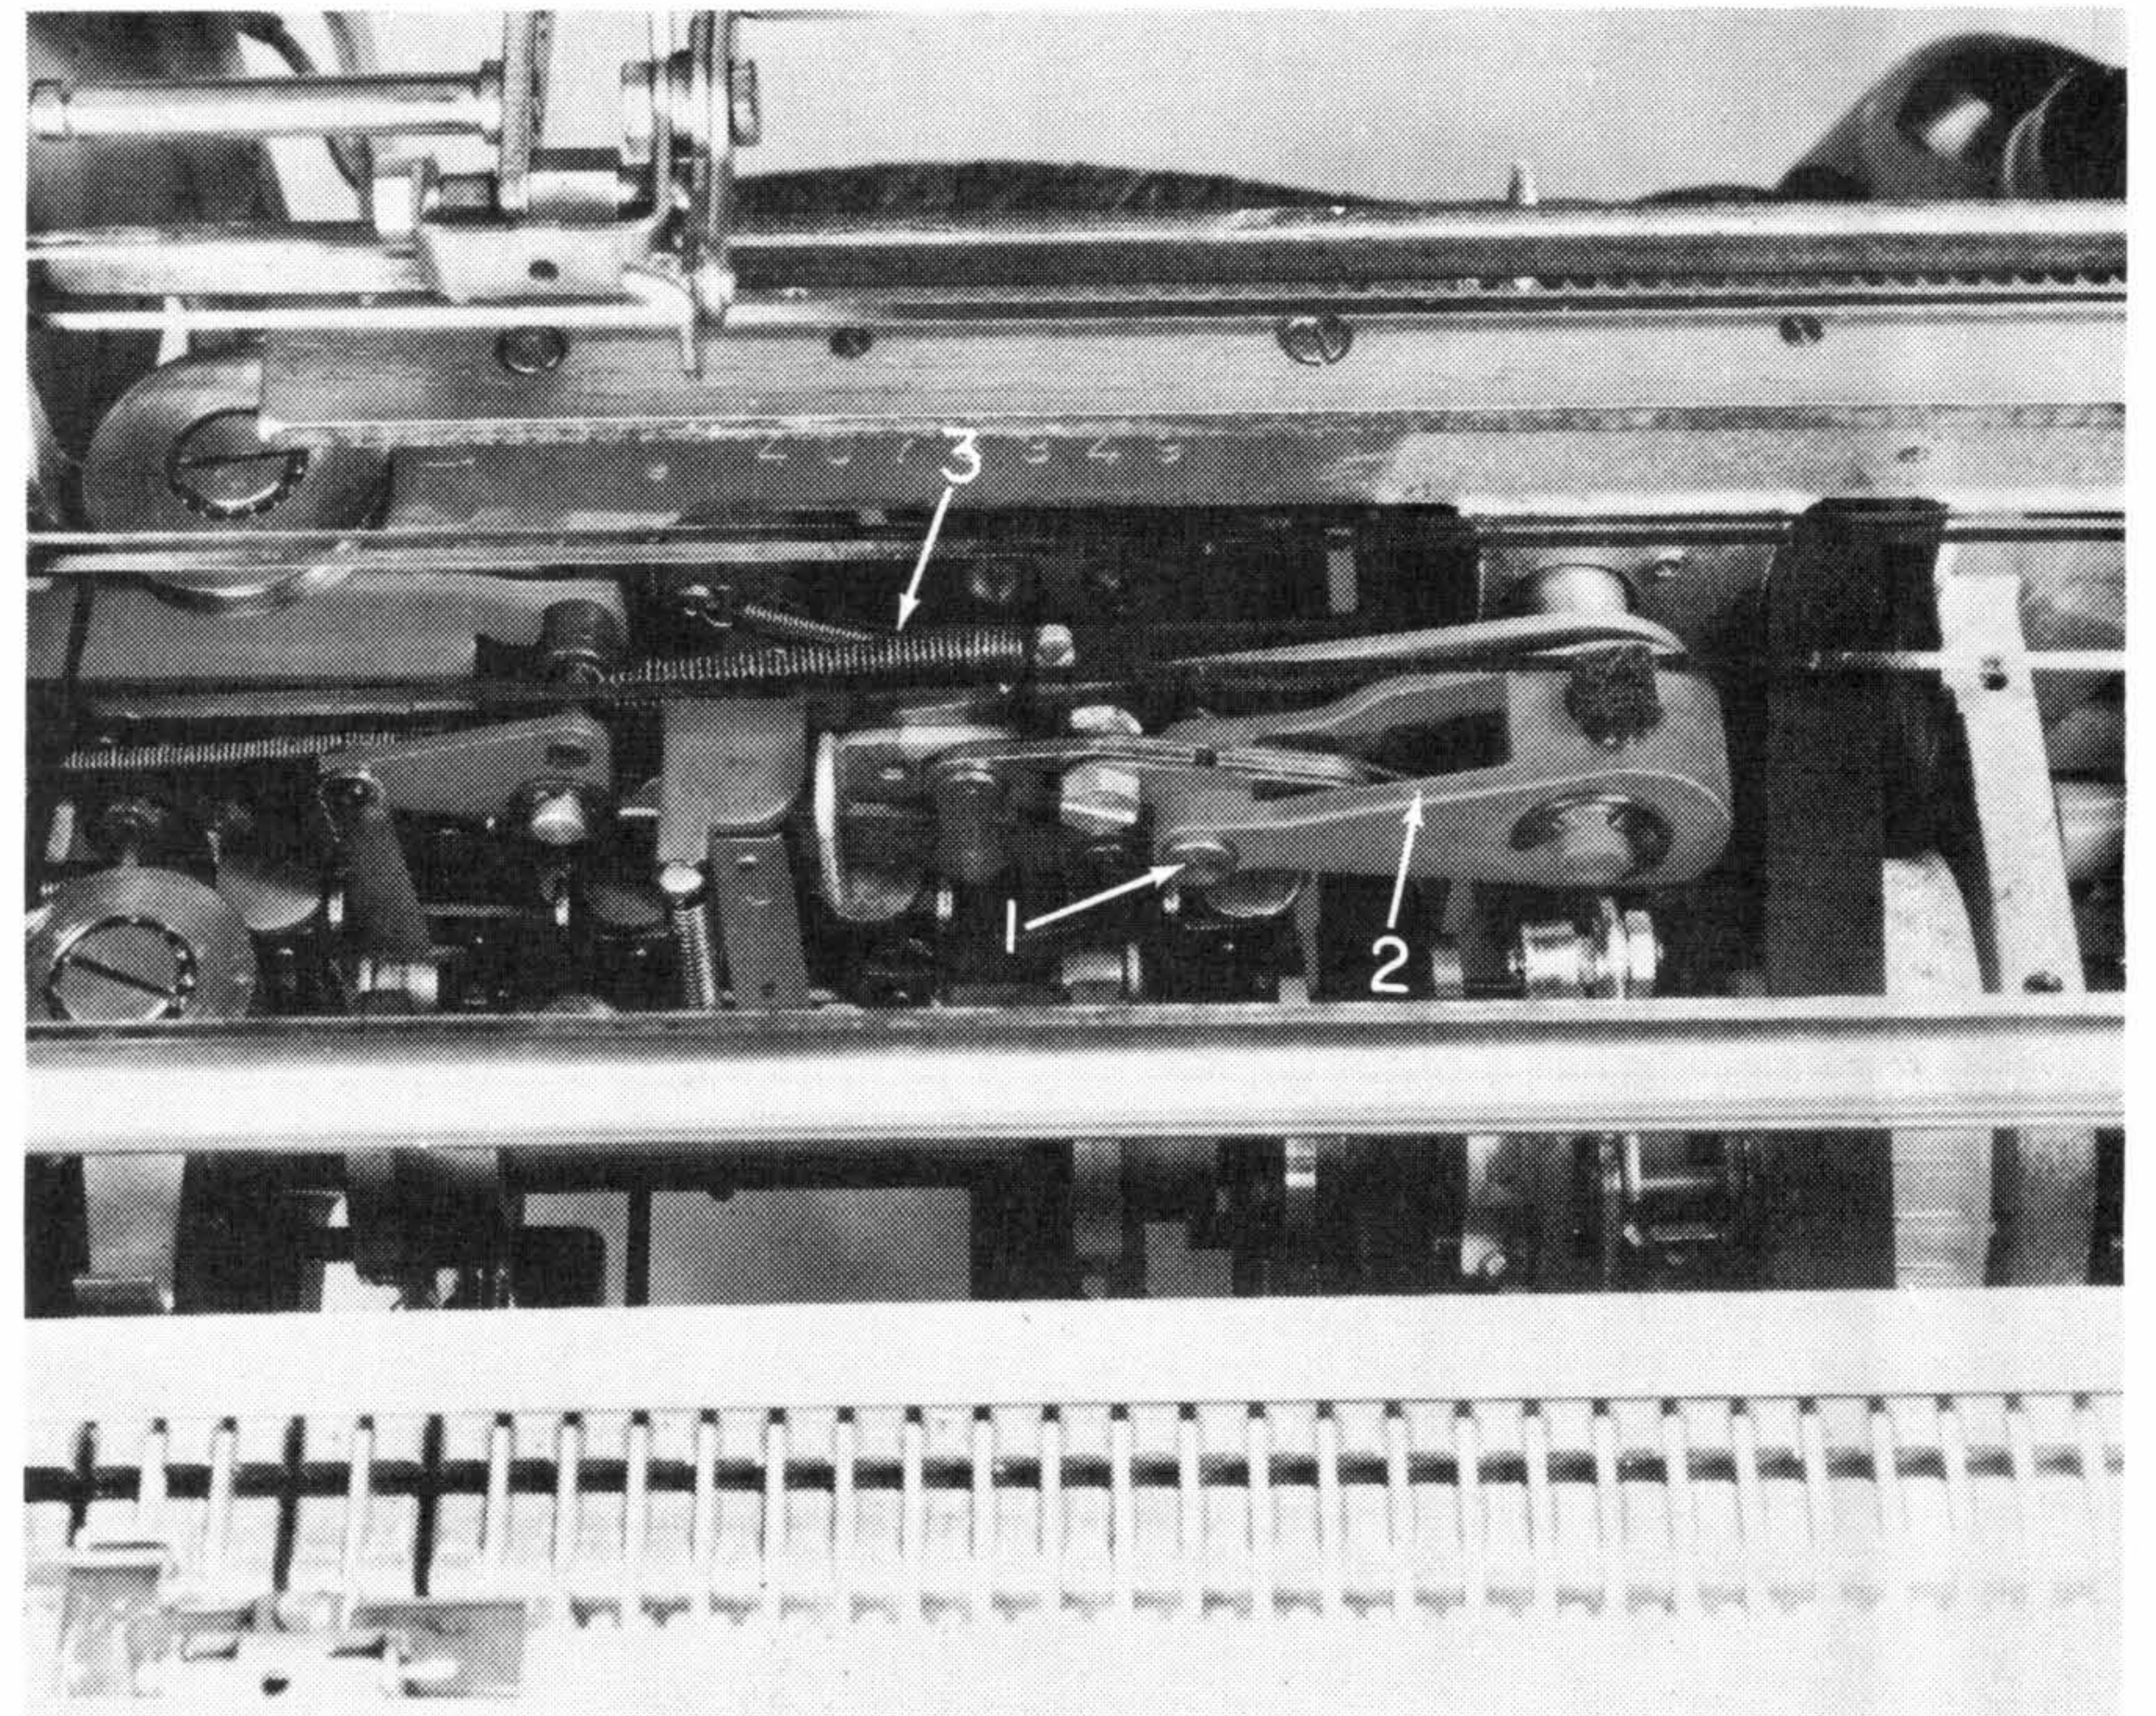

Figure 24. Rotare Selection Differential Removal
13. Remove the balance-arm mounting stud (#1, Figure 24).
14. Disconnect the minus-five bail drive link from the right end of the balance arm (#2, Figure 24).
15. Disconnect the tilt-differential spring (#3, Figure 24).